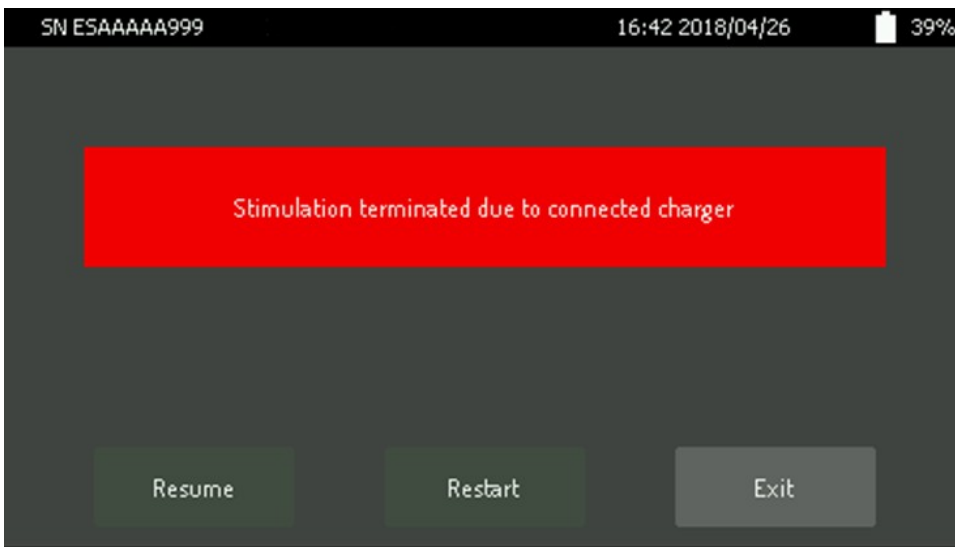

Figure 71. Stimulation terminated due to connected charger.
- user connects a power unit to the device (Figure 71),